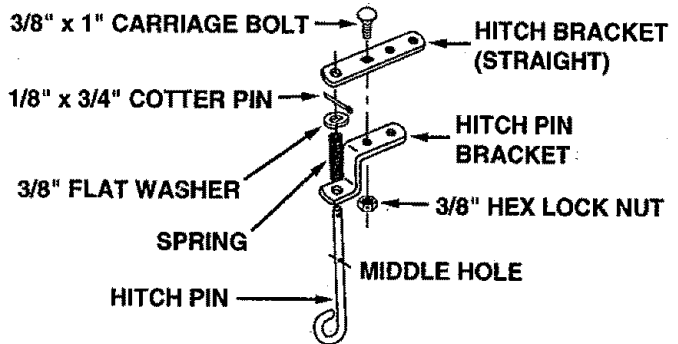

FIGURE 3
- Assemble the hitch pin bracket, the spring and the 3/8" flat washer onto the hitch pin. Secure them onto the hitch pin with a 1/8" x 3/4" cotter pin placed into the middle hole in the hitch pin. Spread ends of cotter pin around hitch pin. See figure 3.
- Assemble the hitch pin bracket to the straight hitch bracket using a 3/8" x 1" carriage bolt and a 3/8" hex lock nut. Align the brackets and **tighten**. See figure 3.